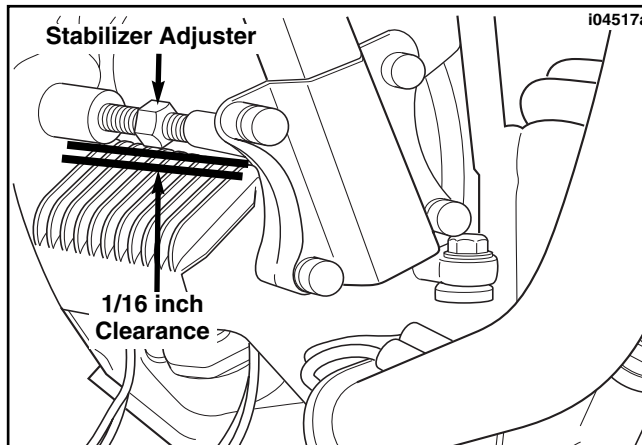

Figure 9. Position Stabilizer Adjuster
1. See Service Parts illustration. Obtain the Stabilizer Adjuster (22), Left Stabilizer (4) and Right Stabilizer (3). Thread the stabilizer adjuster into the right and left stabilizers. The stabilizers are marked with an "R" and "L" to indicate right and left respectively. The right stabilizer has right hand threads - the left stabilizer, left hand threads.
2. See Figure 9. Place the stabilizer assembly between the frame downtubes from the backside and position the assembly so 1/16 inch clearance exists between assembly bottom and regulator. When clearance is correct, tighten the stabilizer adjuster just enough to hold the assembly in place.
3. See Service Parts Illustration. Obtain the Lower Front Mount (2) and four Bolts (15) from kit. Position the lower front mount on the right frame downtube opposite the right stabilizer and insert four bolts thru mount and stabilizer. Finger tighten bolts.